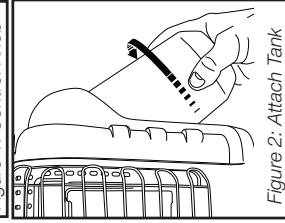

Figure 2: Attach Tank
- To use with propane: Swivel regulator outward for easy tank installation. Screw 1 lb. (465g) disposable Propane-gas (G31) supply cartridge clockwise (from bottom) into portable heater until hand-tight; see Figure 2. DO NOT use thread sealant on this connection.